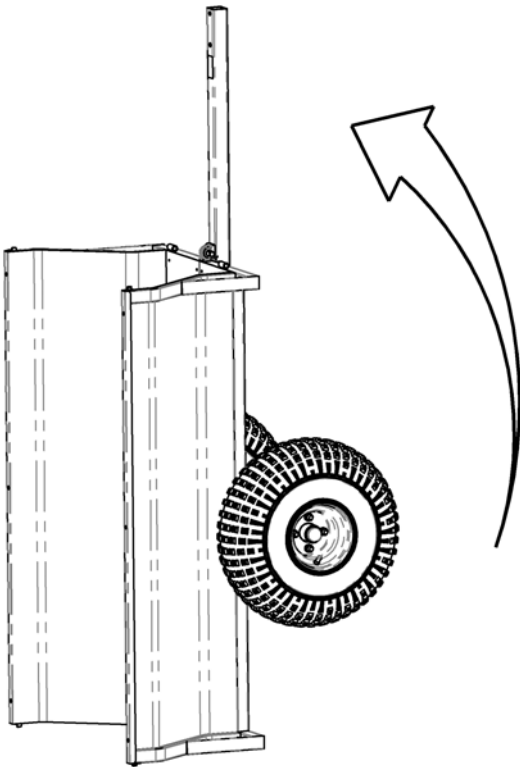

Figure 31
3. Using the Tow Bar, flip the Trailer over onto its top (**Figure 31**).